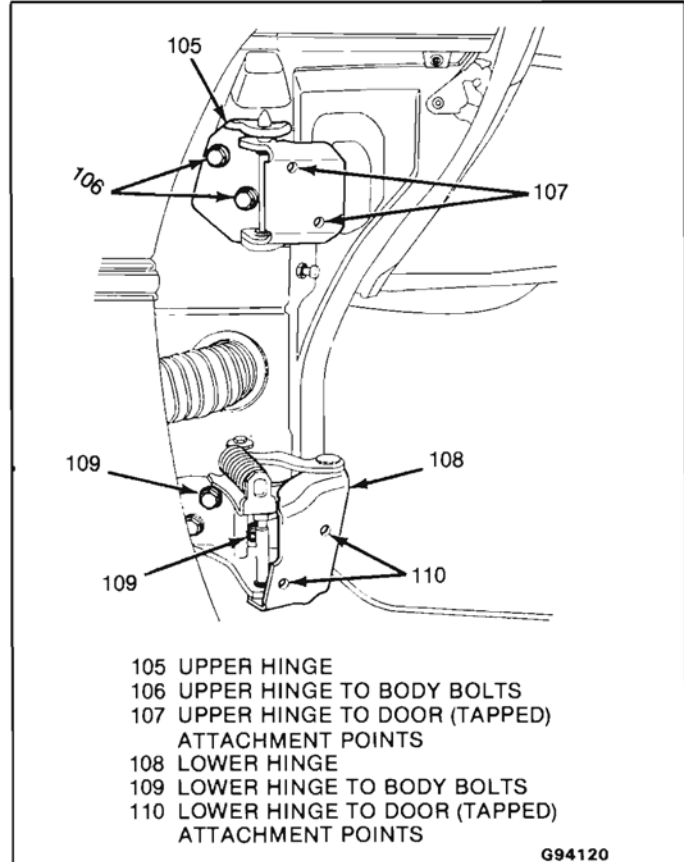

Fig. 29-Door Hinges
↔ Remove or Disconnect (Figure 29)
→← Install or Connect (Figure 29)
**Install or Connect (Figure 29)**